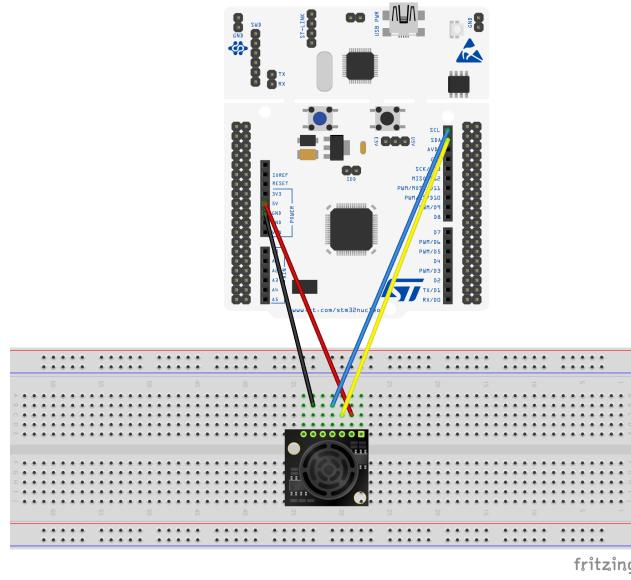

Figure 4.1: Final assembly.
- Carry out the assembly of the card as indicated in the fig. 4.1. In order to understand the assembly, we need to refer to the ultrasonic sensor data-sheet exposed in section 1.3 where we can see the pins location to understand what the sensor pins are. Referring to the data-sheet of the chip shown in appendix B, we can find the pins on which we must connect the cables. Care must be taken not to confuse the data and clock cables for I2C communication ;